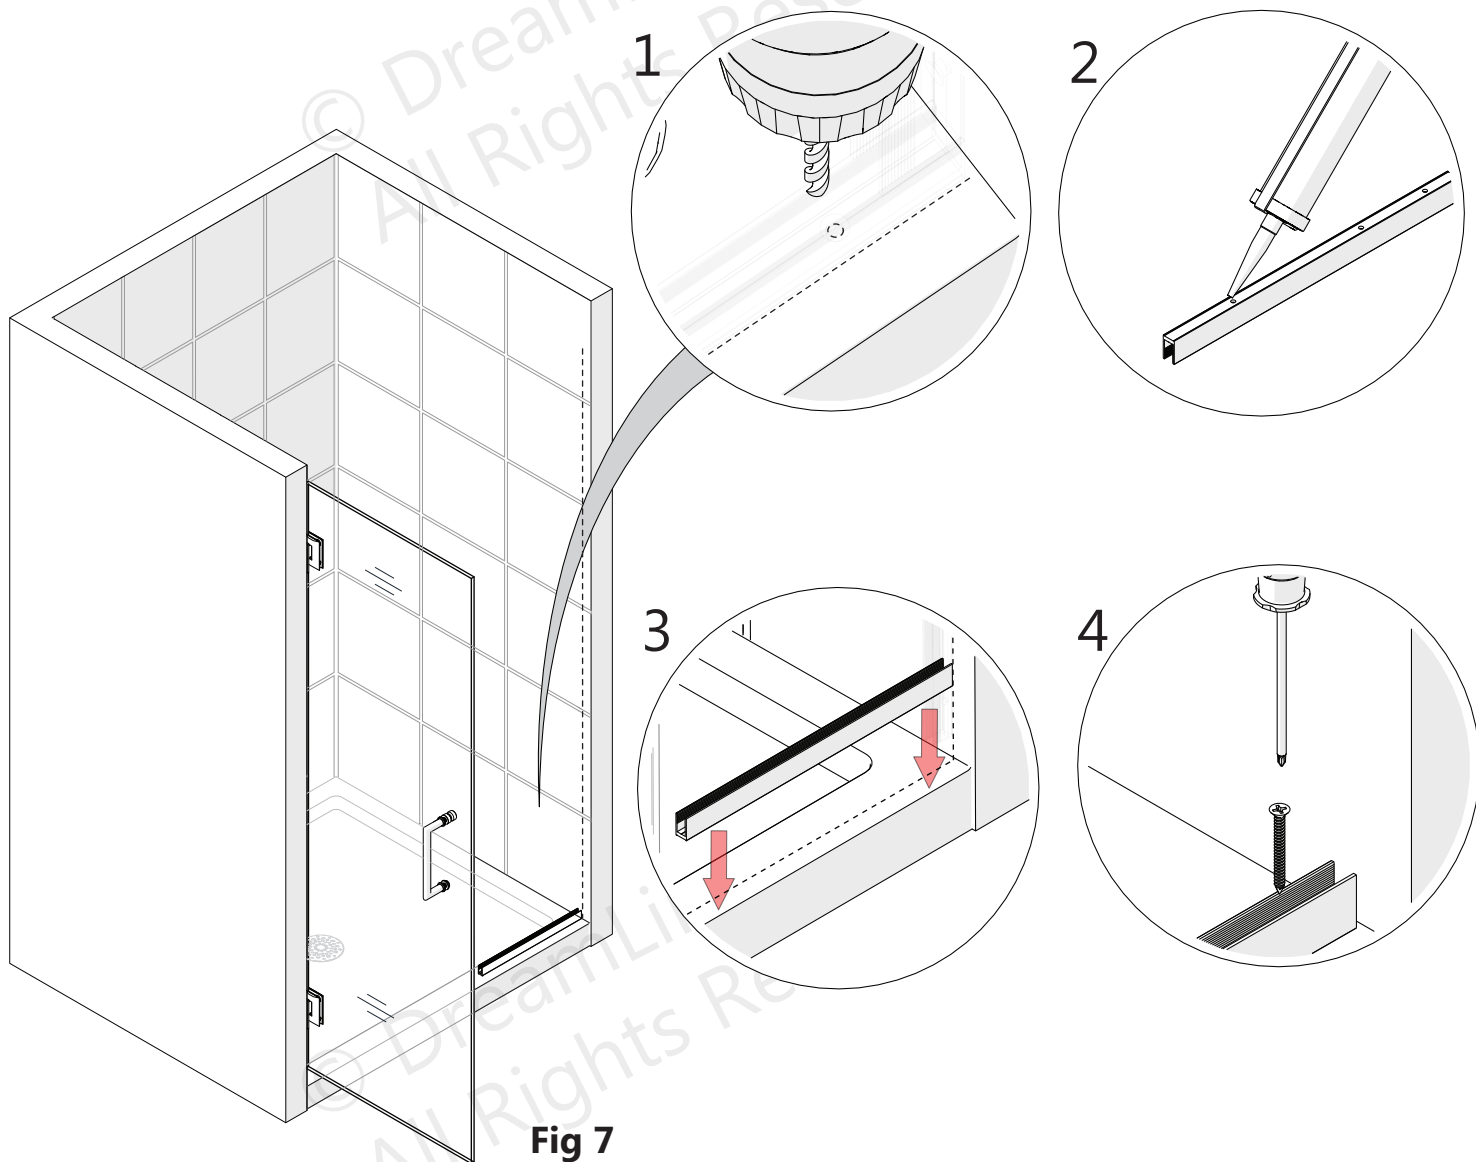

Fig 7
- drill a $\text{Ø}3/16''$ (4mm) hole up to the stud, drill an $1/8''$ (3mm) pilot hole into the stud. **(Fig 7)**
Add a bead of silicone to the back surface of the **U-Channel (#01)** and attach it to the wall using four of the **ST4.0 x 40 Pan Head Screws (#23)**. **(Fig 7)**